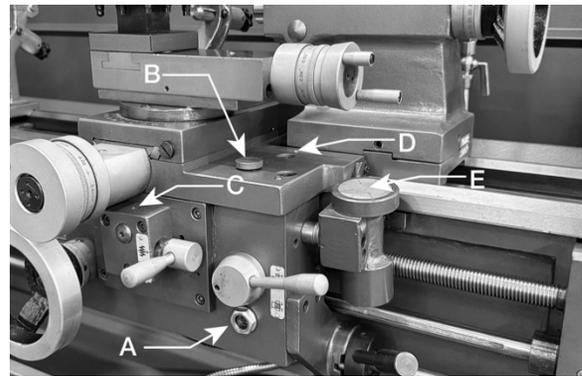

Figure 8-4
5. **Apron** - Oil must be up to indicator mark in oil level sight glass (A, Figure 8-4). Top off with Mobil DTE® Oil Heavy Medium. Fill by removing oil filling plug (B, Figure 8-4). Drain oil by removing drain plug located on the bottom of the apron. Make the first oil change after operating three months. Then, change oil annually.
6. **Feed Axis Selector** - Lubricate ball oiler (C, Figure 8-4) once daily with Mobil DTE® Oil Heavy Medium.
7. **Carriage** - Lubricate ball oilers (D, Figure 8-4) once daily with Mobil DTE® Oil Heavy Medium.
8. **Threading Dial Indicator** - Lubricate ball oiler (E, Figure 8-4) once daily with Mobil DTE® Oil Heavy Medium.